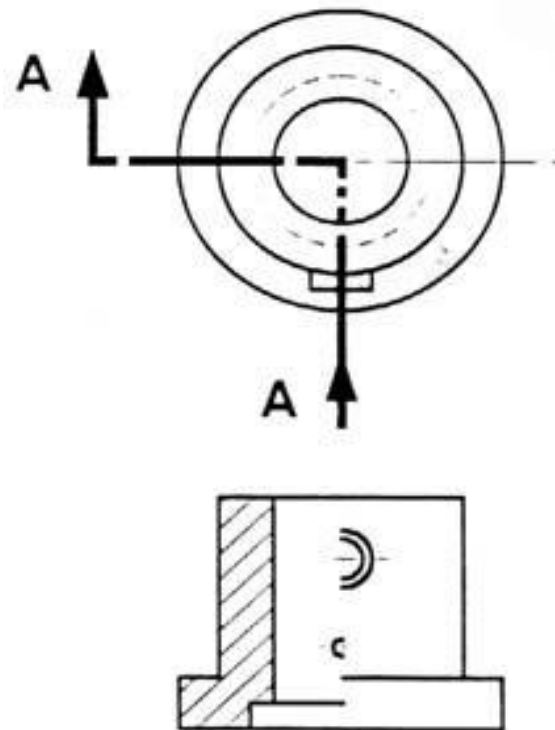

Figure 21 - Half section without hidden lines
- Usually hidden (dotted) lines are not used on the cross-section unless they are needed for dimensioning purposes. Also, some hidden lines on the non-sectioned part of the drawings are not needed (figure 21) since they become redundant information and may clutter the drawing.